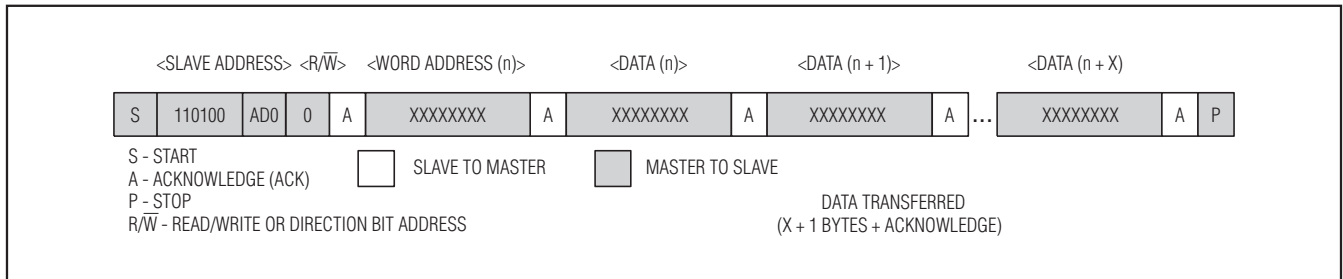

Figure 6. Data Write—Slave Receiver Mode
- 1) **Slave receiver mode (DS1372 write mode):** Serial data and clock are received through SDA and SCL. After each byte is received an acknowledge bit is transmitted. START and STOP conditions are recognized as the beginning and end of a serial transfer. Address recognition is performed by hardware after reception of the slave address and direction bit (see Figure 6). The slave address byte is the first byte received after the master generates the START condition. The slave address byte contains the 7-bit DS1372 address, which is 110100 and AD0. Each slave address is followed by the direction bit (R/\overline{W}), which is zero for a write. The bit position signified by A is compared to the value on the AD0 input pin. After receiving and decoding the slave address byte, the device outputs an acknowledge on the SDA line. After the device acknowledges the slave address and write bit, the master transmits a register address to the device. This sets the register pointer on the device. After setting the register address, the master then transmits each byte of data with the DS1372 acknowledging each byte received. The master generates a STOP condition to terminate the data write.